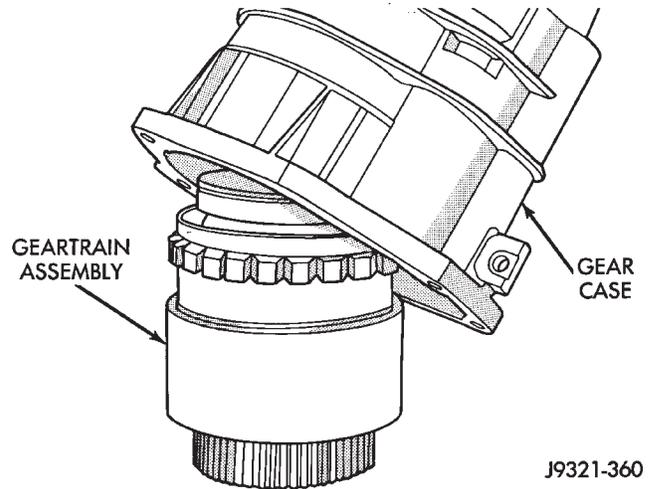

Fig. 256 Overdrive Gear Case Installation
(7) Support geartrain on Tool 6227-1 (Fig. 256). Be sure tool is securely seated in clutch hub.
(8) Install overdrive gear case on geartrain (Fig. 256).